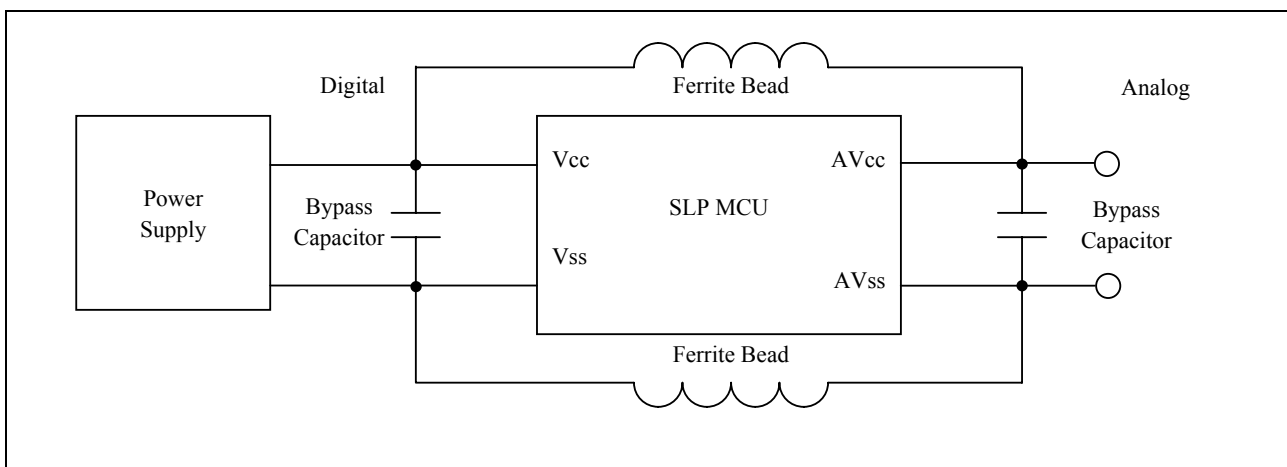

Figure 5 Split Supplies
- A simple method for controlling noise is to have separate supplies for the (i) slower low-current analog functions and (ii) faster medium-power digital functions as shown in Figure 5. The ferrite beads together with the bypass capacitors form a low-pass filter network, reducing the high-frequency noise. It resists varying current and also provides a low-impedance AC short to ground on either side.